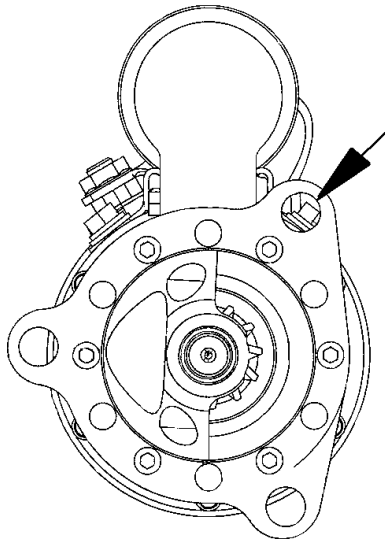
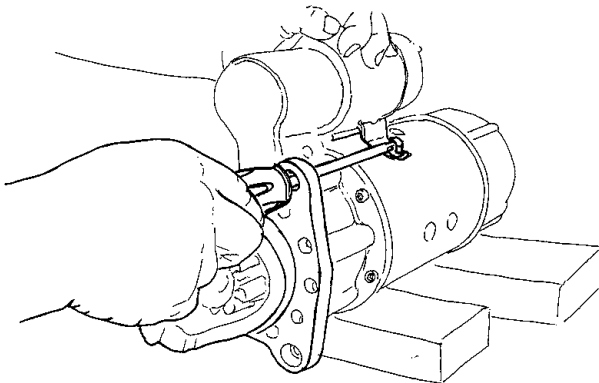

Figure 3 Flange Mounting Hole (Arrow) Aligned with Solenoid Housing Mounting Bolt Shown in the Background When Viewed Through the Flange Mounting Hole
Figure 4 Using a Screwdriver to Align Flange Mounting Hole with Solenoid Housing Mounting Bolt
6. Install the new nose cone housing. Align the flange as shown in Figure 3. When the nose cone housing flange is correctly aligned, the flange mounting hole, arrow in Figure 3 , will be approximately in line with the solenoid housing mounting bolt. Placing a screwdriver through the flange hole in line with the solenoid mounting bolt (Figure 4) may be helpful to guide to align the nose cone housing flange.